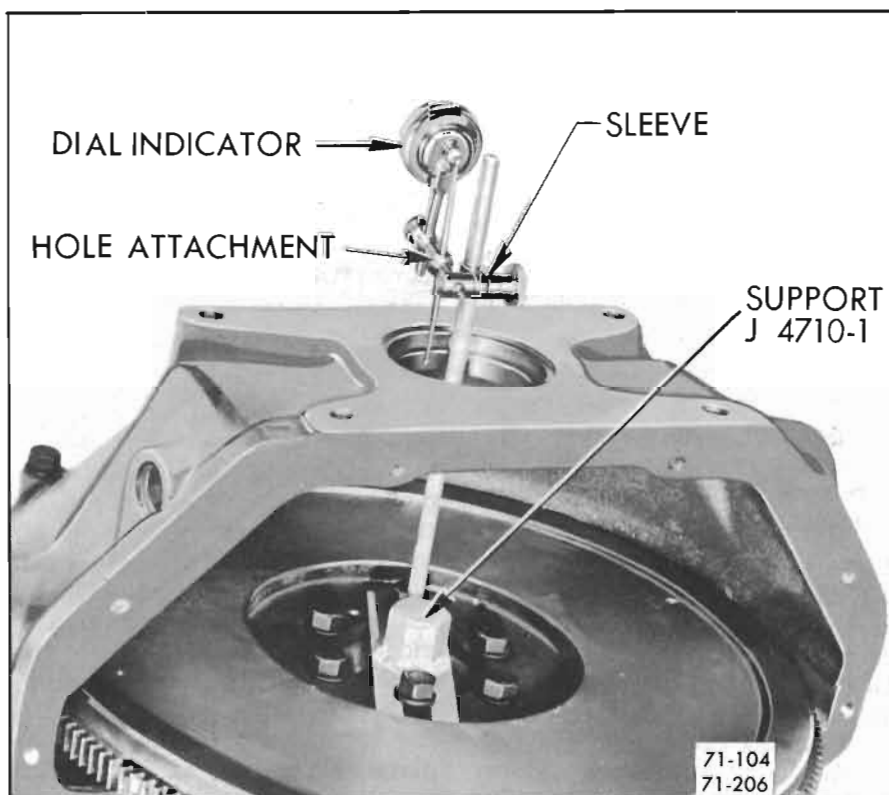

Figure 71-206—Checking Alignment of Pilot Hole
2. Attach Indicator Support J-4710-1 to flywheel with two flywheel bolts. Mount dial indicator and hole attachment on pilot as shown in Figure 71-206. Adjust ball end of hole attachment to bear against side of pilot hole in flywheel housing.
4. Install dial indicator as shown in Figure 71-206, and check run-out at pilot hole in housing.